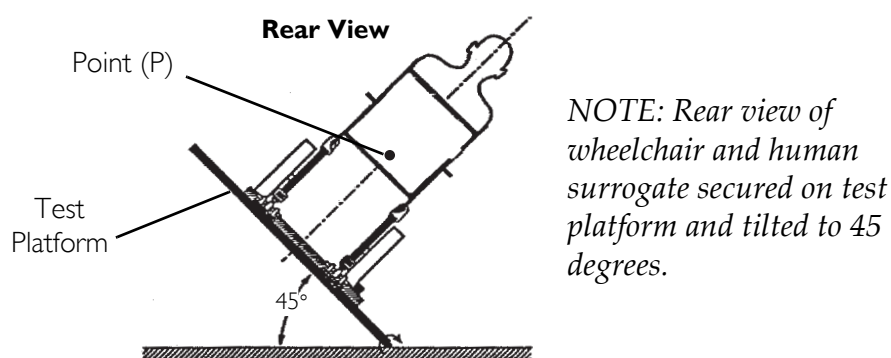

FIGURE 14.3 Vehicle-Anchored Belts
NOTE: For this procedure, refer to FIGURE 14.3.
The test for Lateral Stability Displacement for Point (P) is shown in FIGURE 14.3. The average test result for point (P) is 0.75-inches (19 mm).